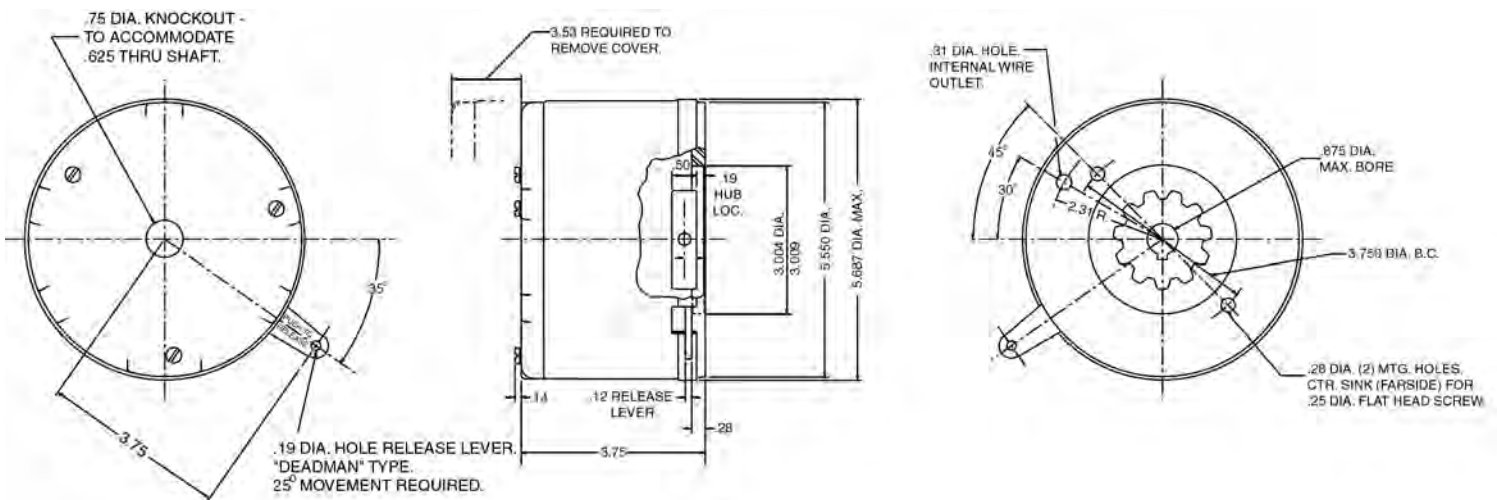
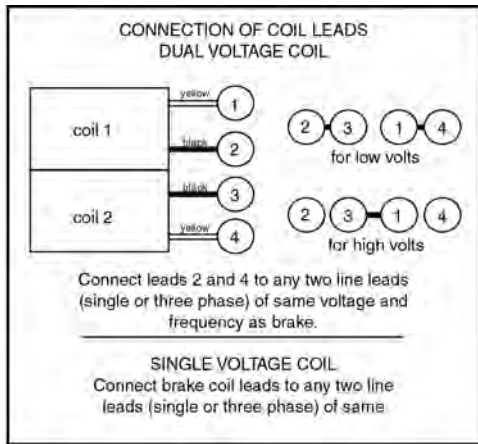

Figure 2. Dimensions of Brake
Figure 3. Wiring Diagram
INSTALLATION (See Figures 2, 3, 4 & 5)
1. Remove hub (2) from brake and position on motor shaft with key per dimension shown in Figure 2. Stamped part number on hub should face away from motor. Tighten hub set screws to shaft with 6-8 lb. ft. torque.
2. Remove the three cover screws (3) and cover (4) and position brake over hub (2) on shaft. Bolt brake to motor flange with two 1/4" flat head screws. (NOTE: Be sure anti-rattle spring (5) does not rest in hub tooth space containing a set screw.)
3. Connect coil wire leads as indicated in Figure 3. Replace cover and three cover screws.